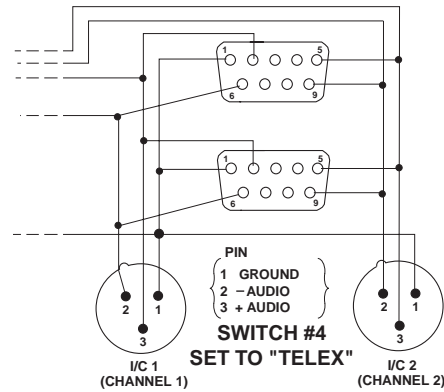

Figure 4
4. **I/C Switch** - Set for Telex or RTS type intercom systems. See Figures 4 and 5.